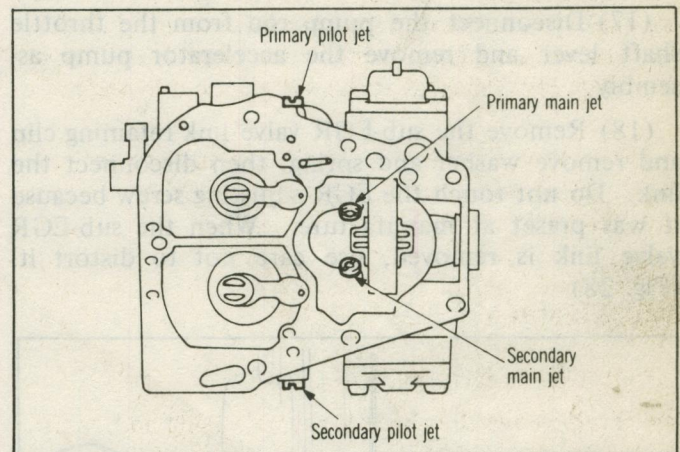
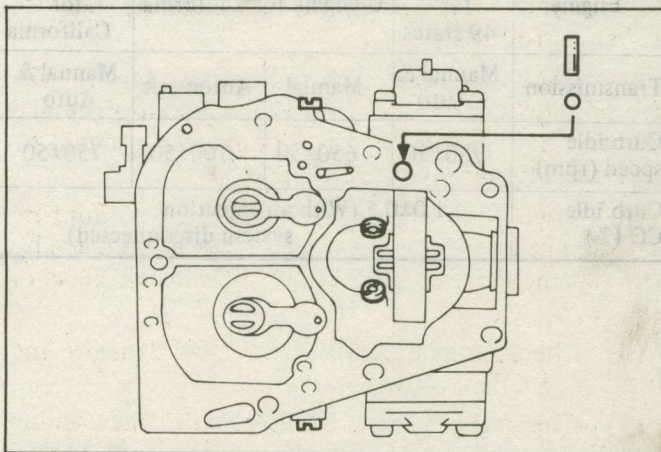

Fig. 26 Jets Location
Fig. 30 Accelerator Pump Discharge Check Ball and Weight Location
(11) Remove the needle valve assembly, gasket and filter.
(12) Do not remove the automatic choke system because the factory setting is affected. If the system is removed, the steel ball of the anti-overfill device should also be removed.
(13) Turn the main body upside down and remove the pump discharge check ball and weight.
(14) Remove the fuel cut-off solenoid.
(15) Remove the main jets and pilot jets. To remove the jets, use a screwdriver having a blade suitable for the groove of the jets. Do not tamper with the factory-set bypass screw and adjusting screw shown in Fig. 26. The heads of these screws are coated with white paint.
(5) Install the main jets and the pilot jets. (Fig. 26)
(6) Install the fuel cut-off solenoid.
(7) Using a new gasket, install the enrichment to the main body.
(8) Install the accelerator pump assembly.
(9) Install the accelerator pump discharge check ball and weight. (Fig. 30)